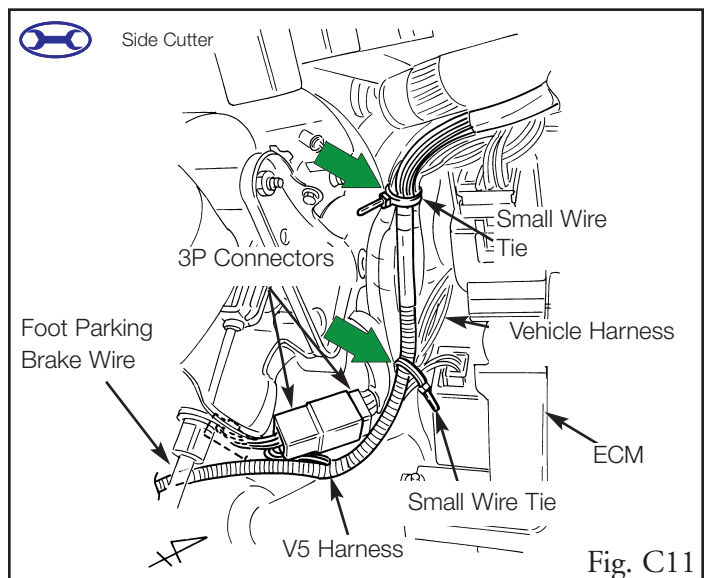

Fig. C11
14. Looking up from the back of the Instrument Panel J/B, route the V5 harness toward the Instrument Panel J/B, then secure it to the vehicle's harness with two small wire ties. (Fig. C11)